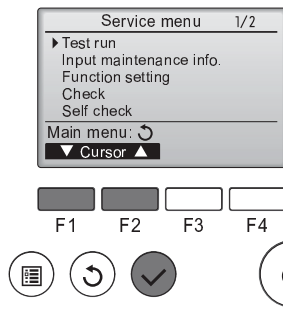

Fig. 5-3
- ③ Select "Test run" with the **F1** or **F2** button, and press the button. (Fig. 5-3)